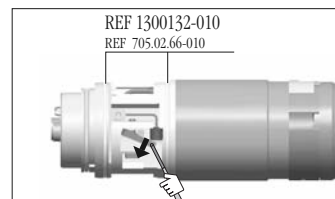

fig. 6
- To change the o-rings REF 1300132-010/705.02.66-010, **fig. 6**.